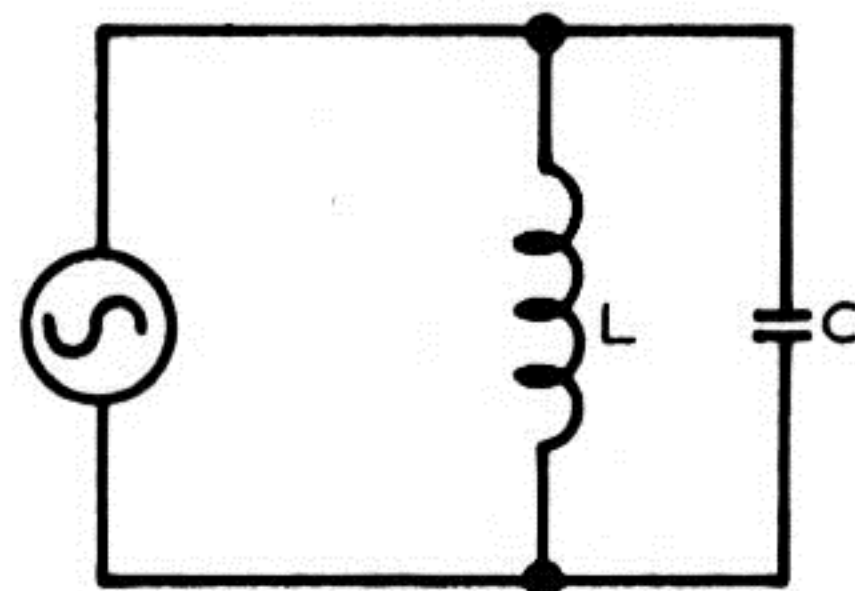
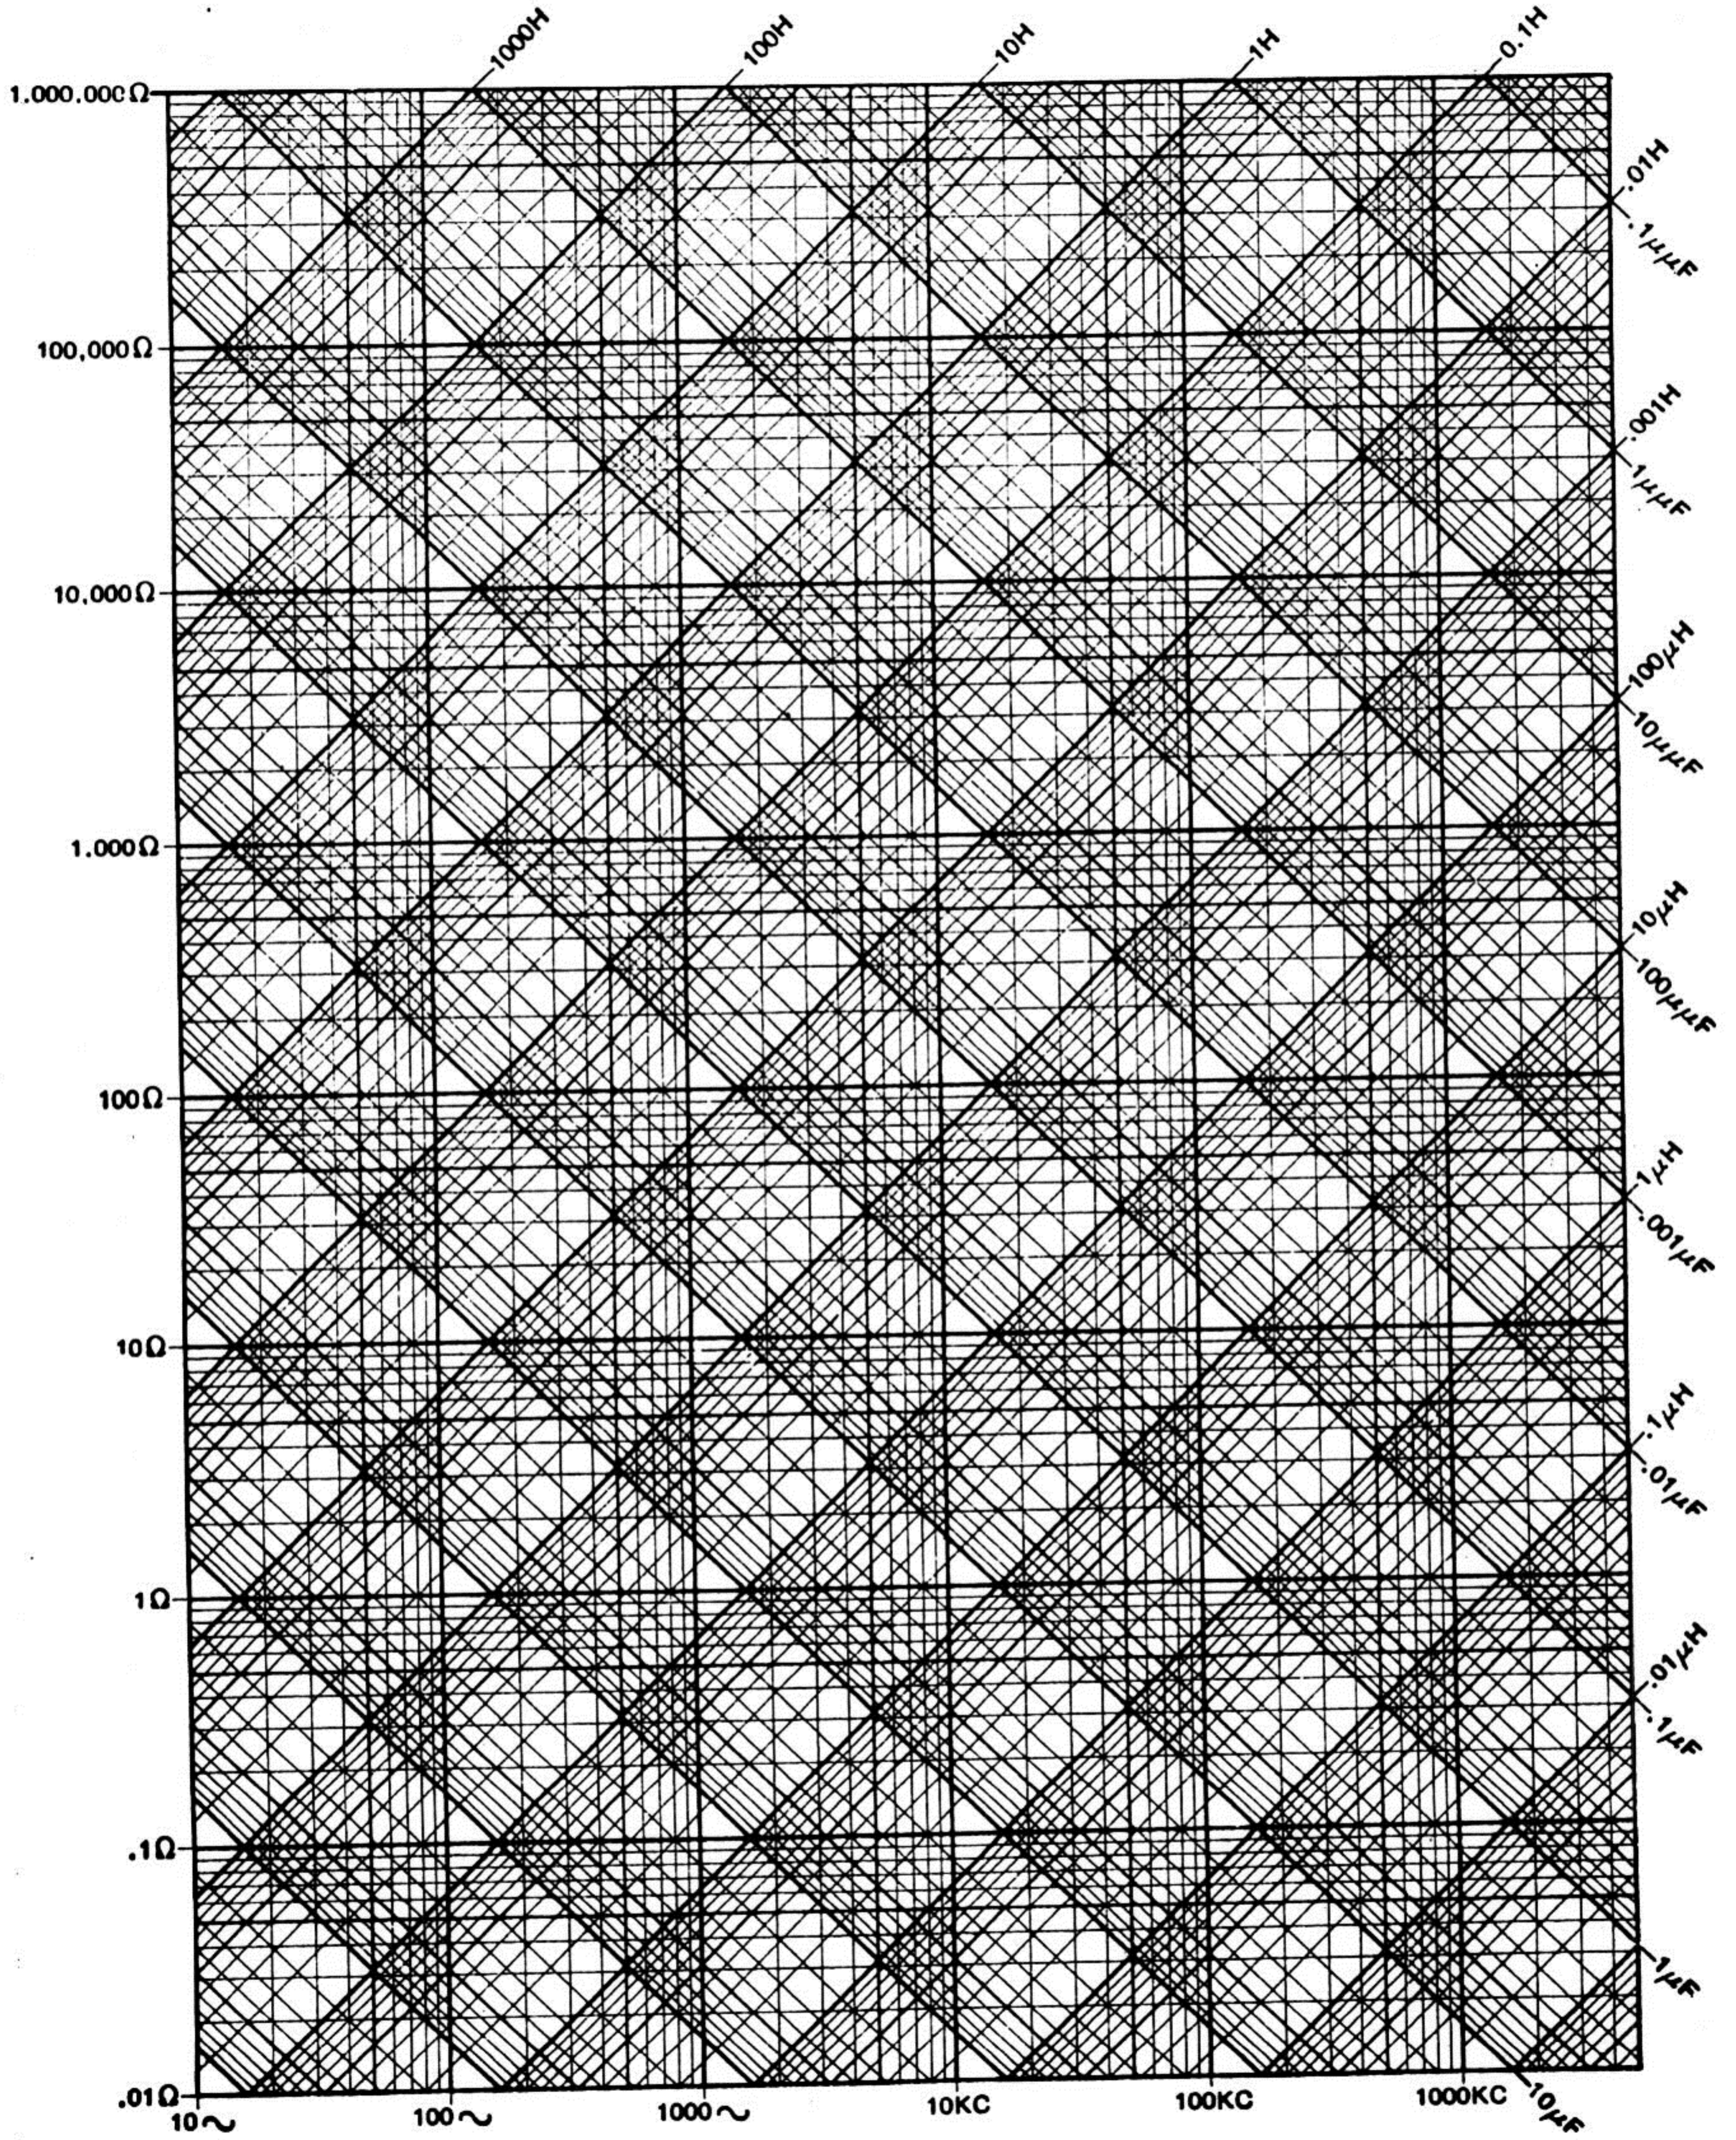

Figure 1
Figure 2
Consider the tank circuit in Figure 1. If an A.C. voltage is applied across the tank circuit as shown, some current (I_C) will flow through the capacitor (C) and some current (I_L) will flow through the inductor (L). How much current will flow through each depends upon the reactance of each. The reactance is dependent upon the applied frequency. Figure 2 shows the interdependence of frequency and reactance. Reactance is plotted on the Y axis and frequency on the X axis. Note that capacitive reactance goes down as frequency goes up, and inductive reactance goes up as frequency goes up.